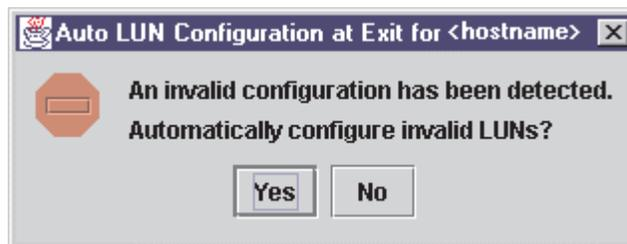

Figure 43. Auto LUN Configuration at Exit for <hostname> window
4. Click **OK** to save the changes until you exit the Fibre Channel Port Configuration window; then, review the configuration changes (see Step 3 on page 49). If FASTT MSJ detects an erroneous LUN configuration while saving the configuration, the Auto LUN Configuration at Exit for <hostname> window is displayed (see Figure 43).